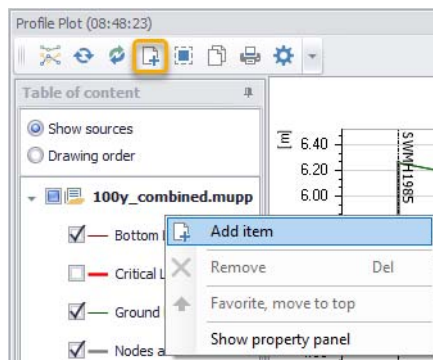

Figure 20.35 The 'Add item' tool on the Profile Plot window
- Add simulation results to a profile plot using the 'Add item' button on the Profile Plot window (Figure 20.35.). The option is also offered from the local context menu (i.e. right-click) on the left panel of the profile plot form.